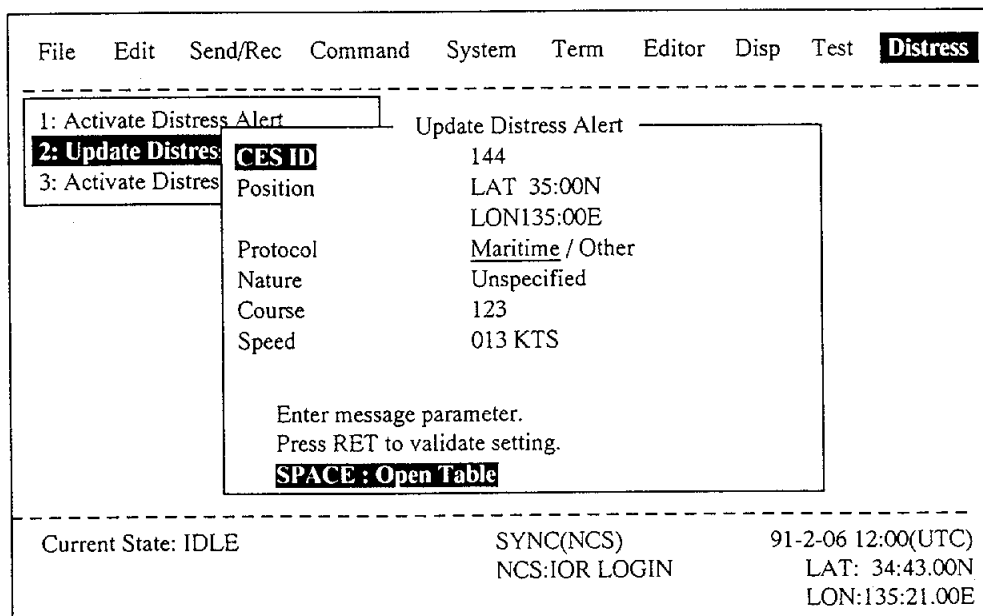

Figure 6-7 Update Distress Alert Screen
2. Press [2] key. The display should look something like Figure 6-7.